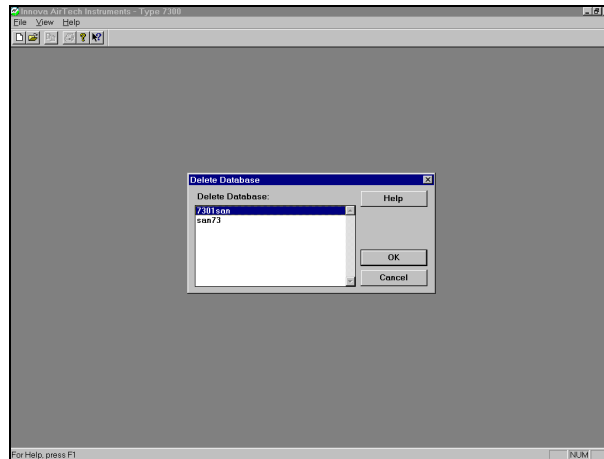

Fig.A.1 The Delete Database dialogue
2. Pull down the **File** menu. Click on **Delete**. The Delete Database dialogue will be displayed, Fig.A.1.